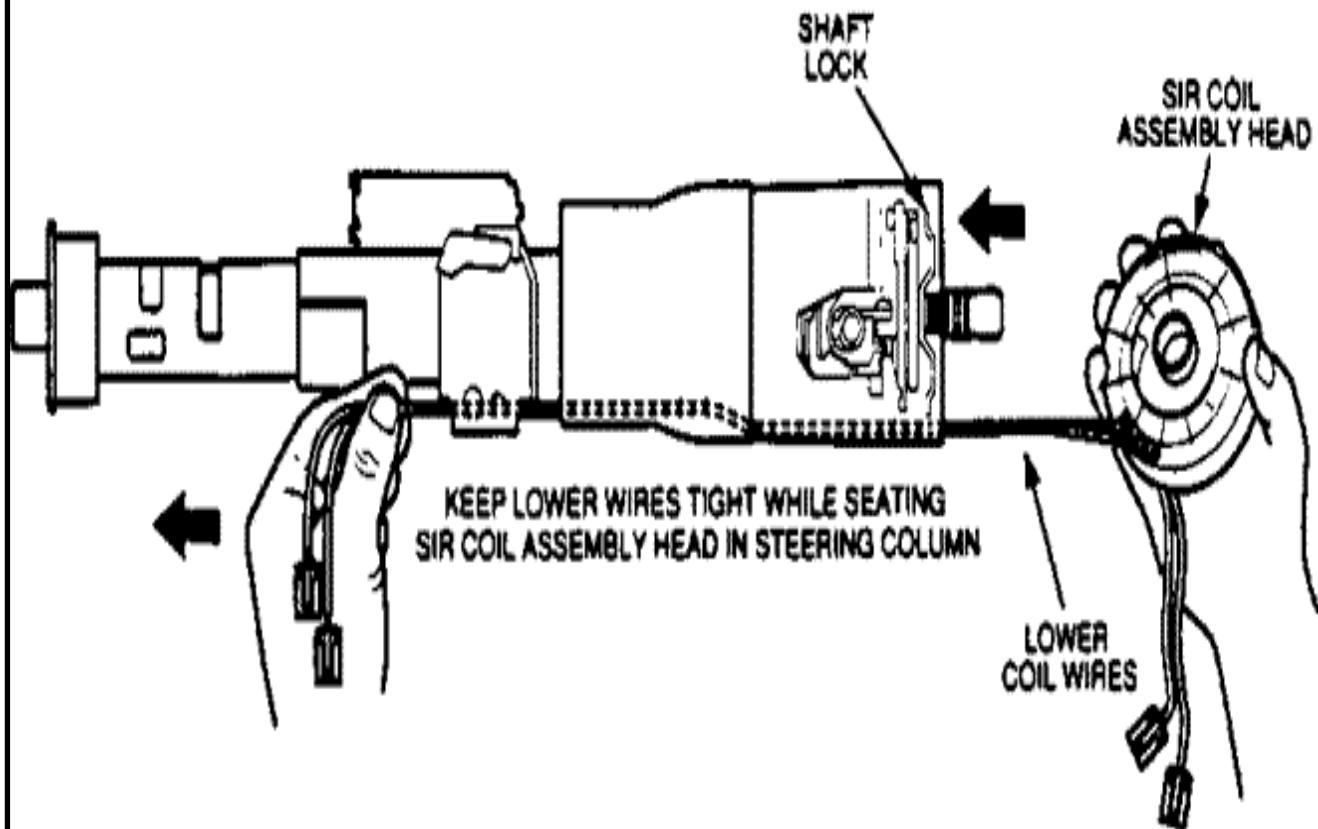

Figure 3 SIR Coil Assembly Installation Procedure
1. Grasp the ends of all the lower SIR coil wires below the I.P. bracket (See Figure 3).
2. Grasp the SIR coil head with the other hand. Position the head assembly with the lower wires in the down position (See Figure 3).